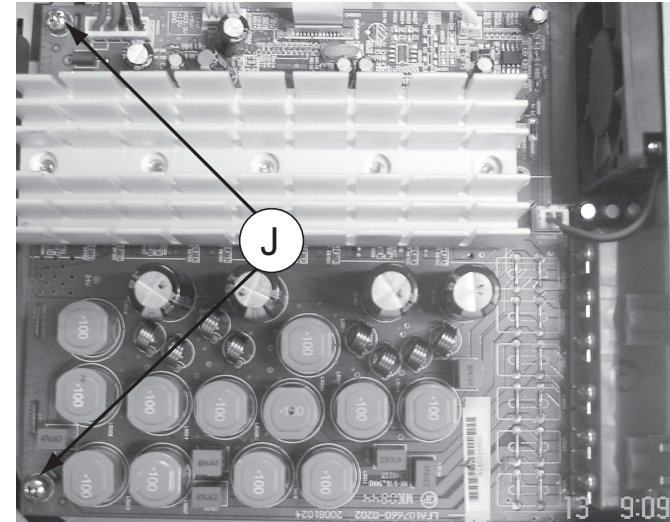

Figure 13
- 1) Loosen 2 screws "J" on the top of AMP Board as shown in figure 13.